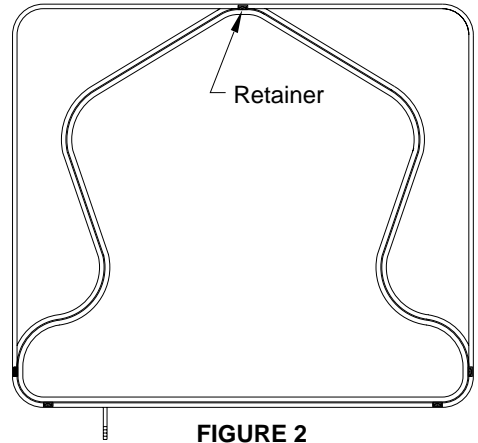

FIGURE 2
14. Find center of remaining seal, use 1" retainer pieces to stake at center of top (see FIGURE 2).